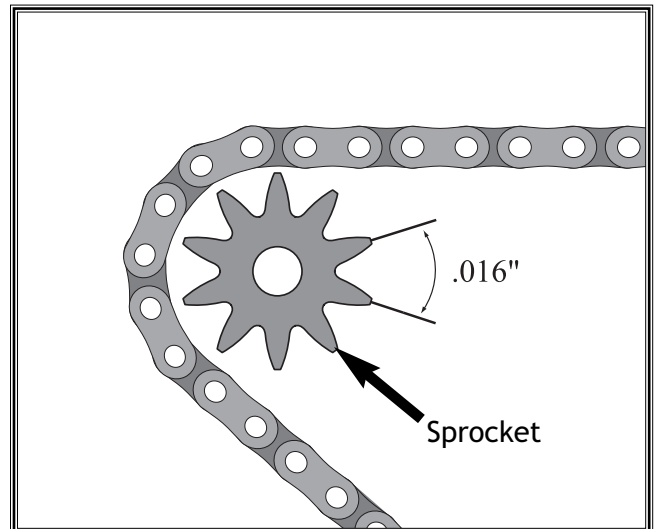

Figure 14. Understanding sprocket movement.
3. Moving the sprockets clockwise lowers the table and moving them counter-clockwise raises the table. Each tooth on the corner sprockets equals .016" of vertical movement when the cogs are turned (see illustration in **Figure 14**). Make sure, as you adjust each sprocket, that you count the number of teeth that pass a fixed point.